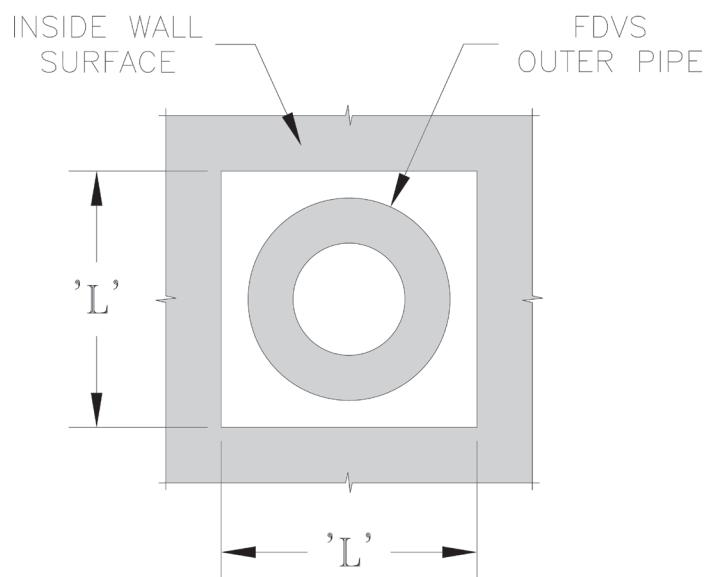

Figure 14: Wall Cutout Dimensions
5. After determining the location of the venting system termination, cut the square hole in the wall sized according to "L" dimension in Table 5, see Figure 14.